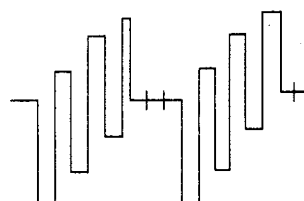

Figure 2
5. Adjust L503 to make B-Y output stable. (Figure 2)